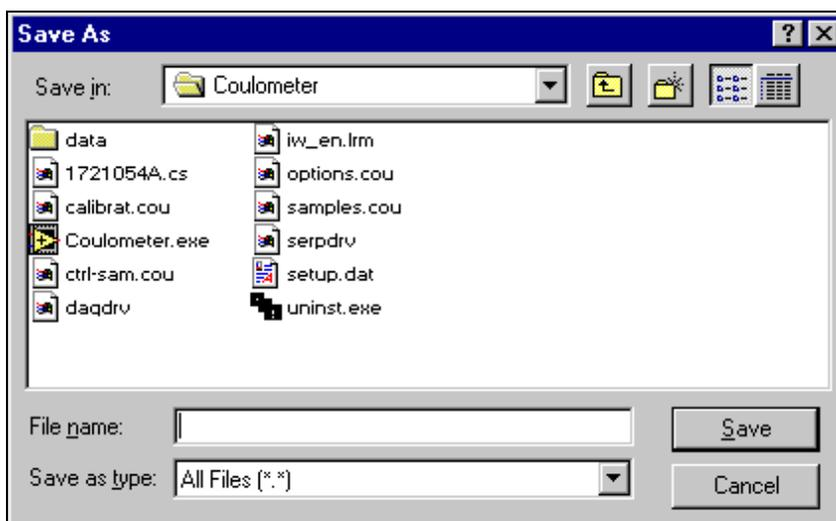

Figure 24. Saving samples as a text file.
1. When your sample list is complete, click on the **Text File** button. This opens the "Save As" dialog box (see Figure 24).